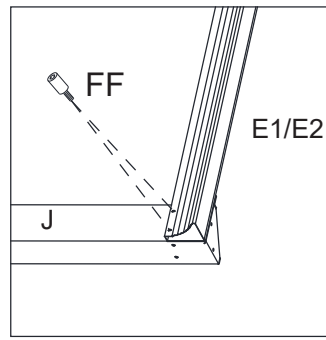

Fig 4
Attach the Lintel (E2/E1) to Post (J) with Bolt M6\*15(FF) .See Fig.4.